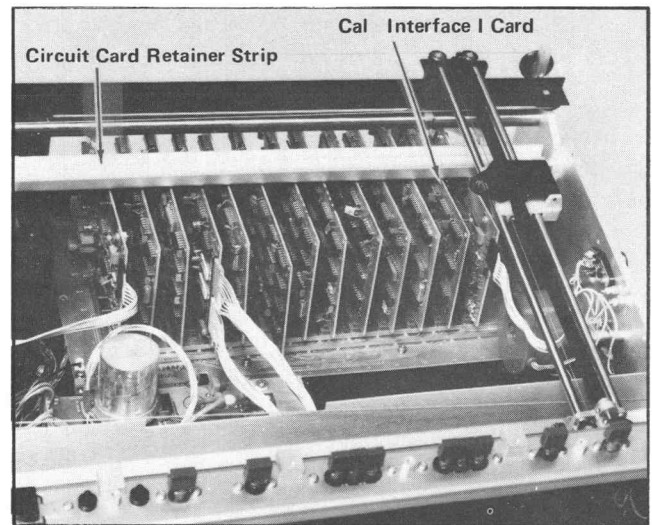

Fig. 1-11. Calculator Interface #1 Card and retainer strip locations.
5. Disconnect the two harmonica connectors from the rear edge of the Cal Interface #1 card. Remove the two screws that attach the card retainer strip to the frame, then remove the strip and the Cal Interface #1 card (Fig. 1-11).